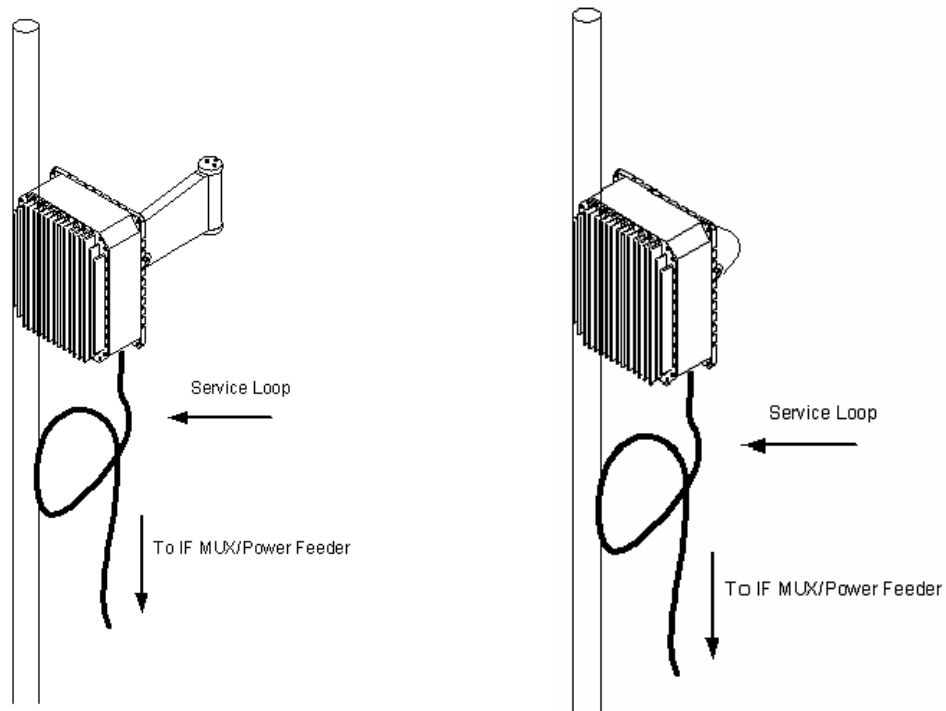

Figure 4-26: Service Loop for BS 26 GHz ODU with Horn (left) and Integrated (right) Antenna
- Referring to Figure 4-26, when routing the coaxial cable, leave a **service loop** at the RFU end to provide a sufficient length of cable to allow replacement of a faulty connector, when necessary.